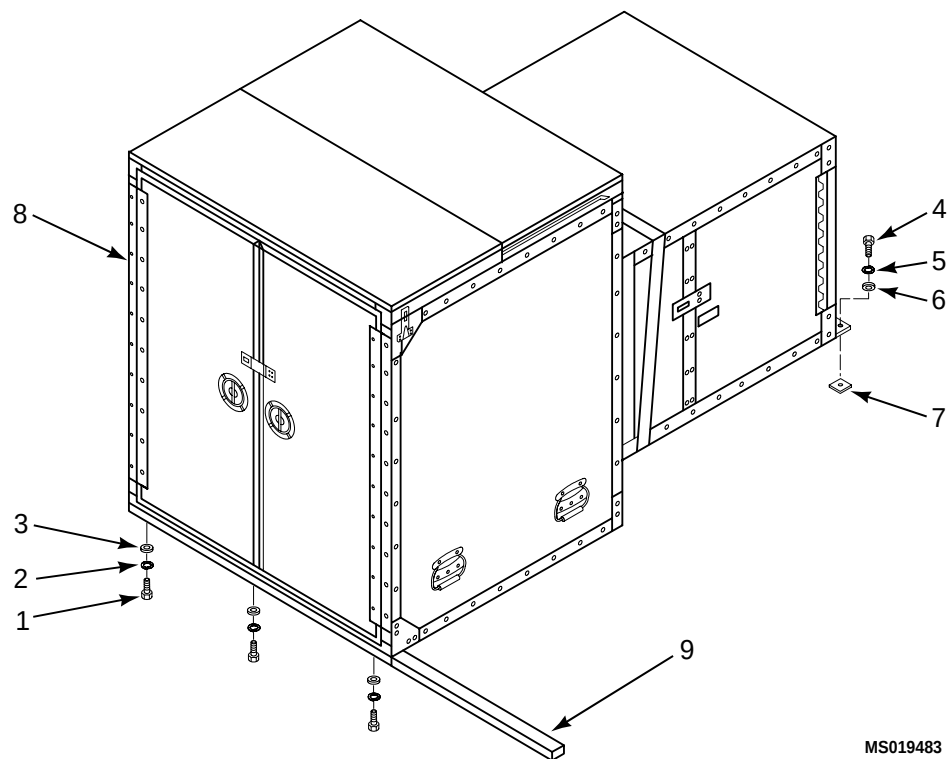

Figure 1. Rear Mounting Bar Replacement
2. Remove 3 mounting bolts (1), 3 lock washers (2) and 3 flat washers (3).
3. Remove 2 mounting bolts (4), 3 lock washers (5) and 3 flat washers (6) and spacer (7). (Figure 1)